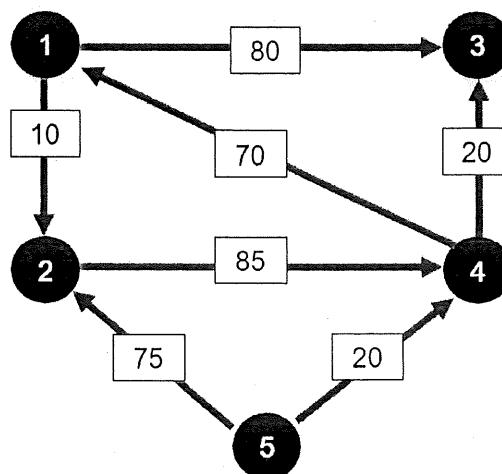

Figure 3: GT Cell for Five (5) Machines
- b) Five machines will constitute a GT cell, as per Figure 3. By using Hollier Method, calculate percentage of in-sequence moves, bypassing moves and backtracking moves. (13 Marks)